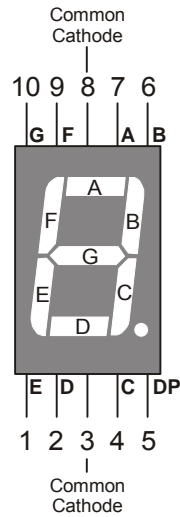
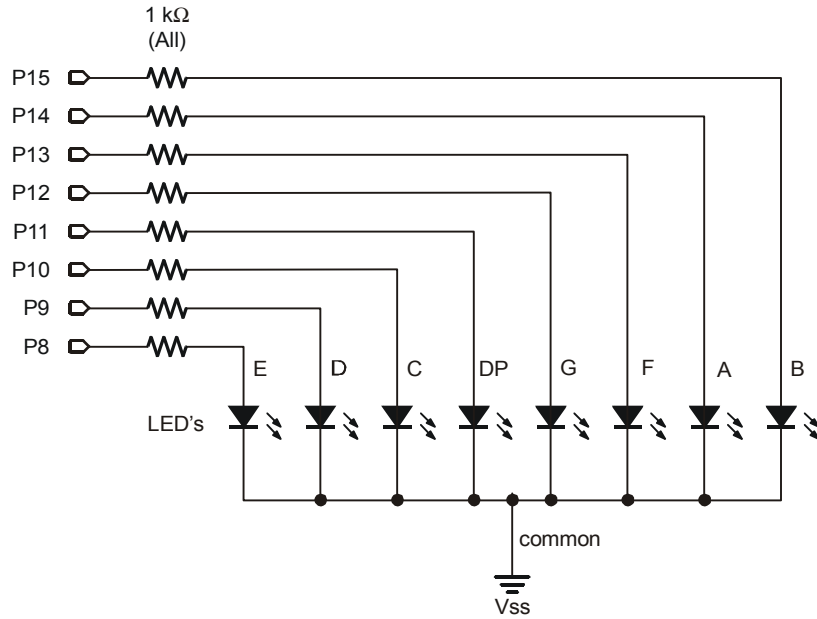
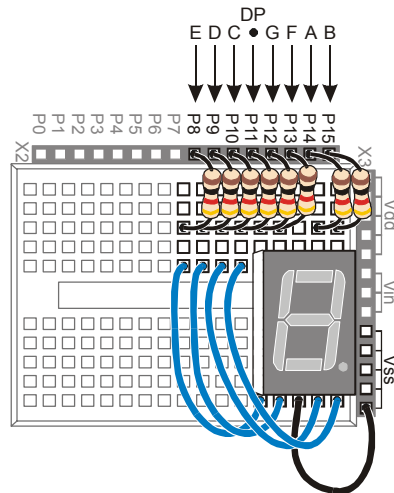

Figure 6-2
Figure 6-10
Figure 6-11
A 7-segment display is rectangular block of 7 lines of equal length that can be lit selectively to display digits and some letters. A very common form is the 7-segment LED display, a package with a rectangular block of 7 LEDs. Figure 6-2 shows a part drawing of the 7-segment LED display you will use in this chapter's activities. It has one additional LED, a dot that can be used as a decimal point. Each of the segments (A through G) and the dot contains a separate LED, which can be controlled individually. Most of the pins have a number along with a label that corresponds with one of the LED segments. Pin 5 is labeled DP, which stands for decimal point. Pins 3 and 8 are labeled "common cathode", and they will be explained when the schematic for this part is introduced.
Pin Map: Figure 6-2 is an example of a pin map. A pin map contains useful information that helps you connect a part to other circuits. Pin maps usually show a number for each pin, a name for each pin, and a reference. Take a look at Figure 6-2. Each pin is numbered, and the name for each pin is the segment letter next to the pin. The reference for this part is its overall appearance. You know by looking at the top of the display that pin 1 is closest to the lower-left corner of the display. Other parts have more subtle references, such as the flat spot on a regular LED's case.
- ✓ Using the pin map from Figure 6-2 as a guide, repeat these steps for segments C through G.
Figure 6-10 shows the schematic and Figure 6-11 shows the wiring diagram for this BASIC Stamp controlled 7-segment LED display example.
✓ Build the circuit shown in Figure 6-10 and Figure 6-11.
Schematic and pin map: If you are trying to build the circuit from the schematic in Figure 6-10 without relying on Figure 6-11, make sure to consult the 7-segment LED display's pin map (Figure 6-2, page 166).
Be careful with the resistors connected to P13 and P14. Look carefully at the resistors connected to P13 and P14 in Figure 6-11. There is gap between these two resistors. The gap is shown because pin 8 on the 7-segment LED display is left unconnected. A resistor connects I/O pin P13 to 7-segment LED display pin 9. Another resistor connects P14 to 7-segment LED display pin 7.